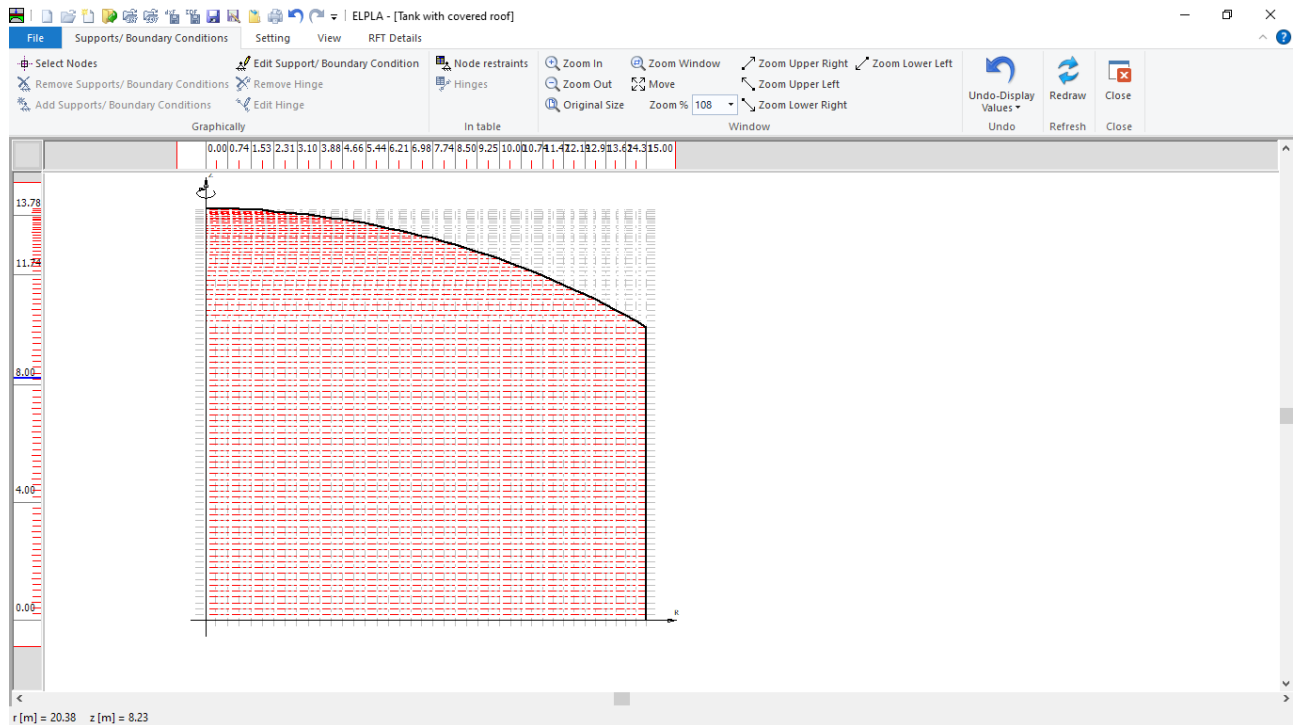
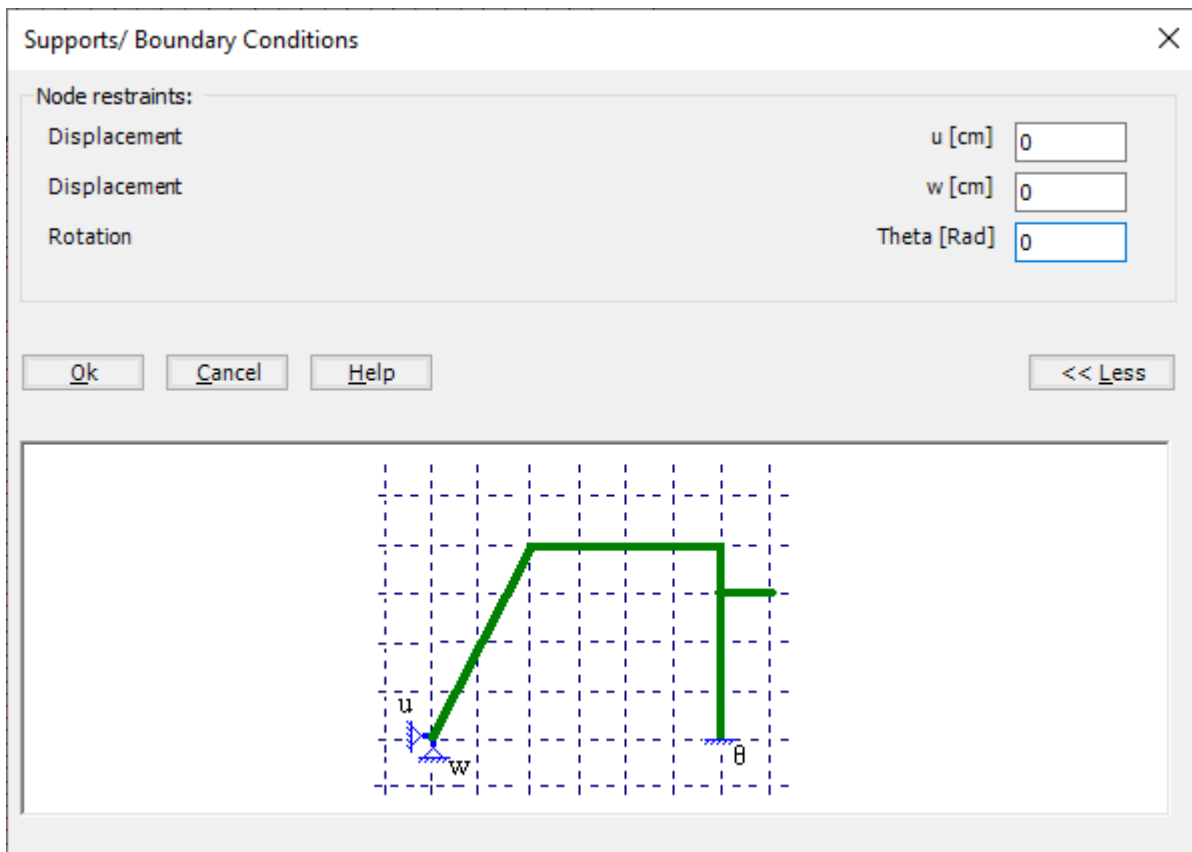

Figure 5.17 "Supports/ Boundary Conditions" Window
Figure 5.19 "Supports/ Boundary Conditions" dialog box
To define the support, choose "Supports/ Boundary Conditions" command from "Data" Tab. The following window in Figure 5.17 appears.
- Choose "Select Nodes" command from "Graphically" menu in Figure 5.17. When "Select Nodes" command is chosen, the cursor will change from an arrow to a cross hair
- After selecting the node, choose "Add Supports/ Boundary Conditions" command from "Graphically" menu (Figure 5.17). The "Supports/ Boundary Conditions" dialog box in Figure 5.19 appears.